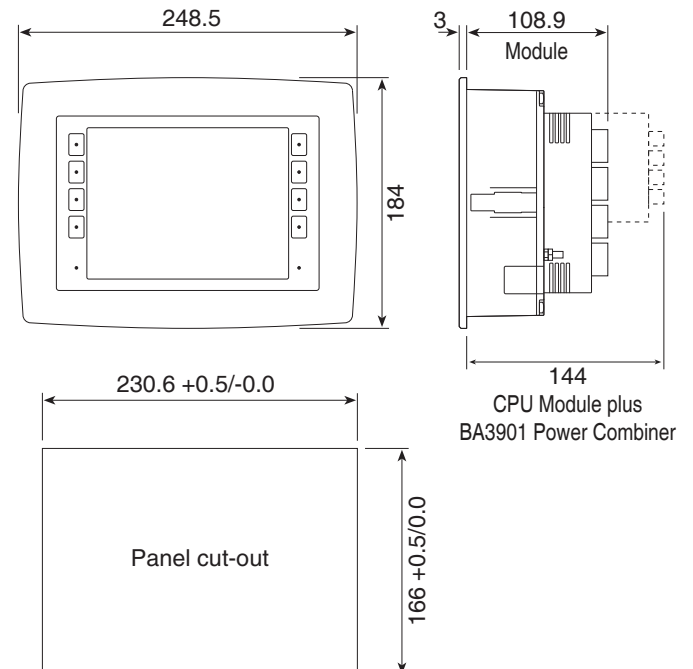

Fig 2 BA3101 and BA3102 dimensions including plug-in modules and panel cut-out
Fig 2 shows the overall dimensions of the BA3101 including the plug-in modules and the panel cut-out dimensions.
Fig 2 shows the overall dimensions of the BA3102 including the plug-in modules and the panel cut-out dimensions.
1. Cut the aperture specified in Fig 2 in the panel and ensure that all edges are de-burred.